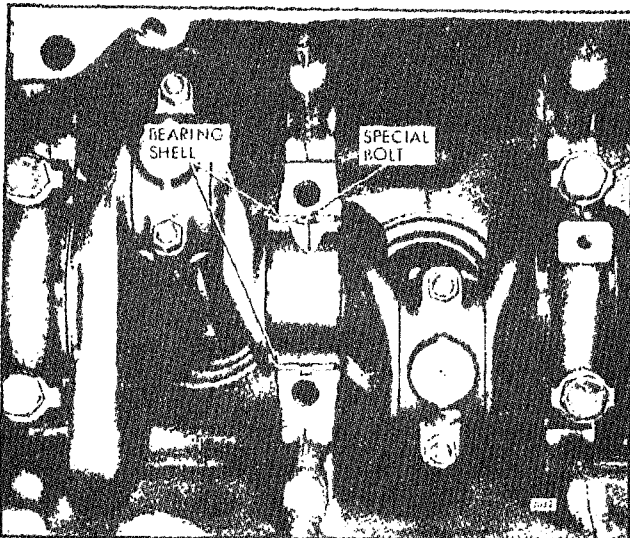

Fig. 4 - Removing Upper Main Bearing Shell
- a. To remove all except the rear main bearing shell, insert a 1/4" x 3/4" bolt with a 1/2" diameter and 1/16" thick head (made from a standard bolt) into the crankshaft journal oil hole. Then revolve the shaft to the right (clockwise) and roll the bearing shell out of position as shown in Fig. 4. The head of the bolt must not extend beyond the outside diameter of the bearing shell.